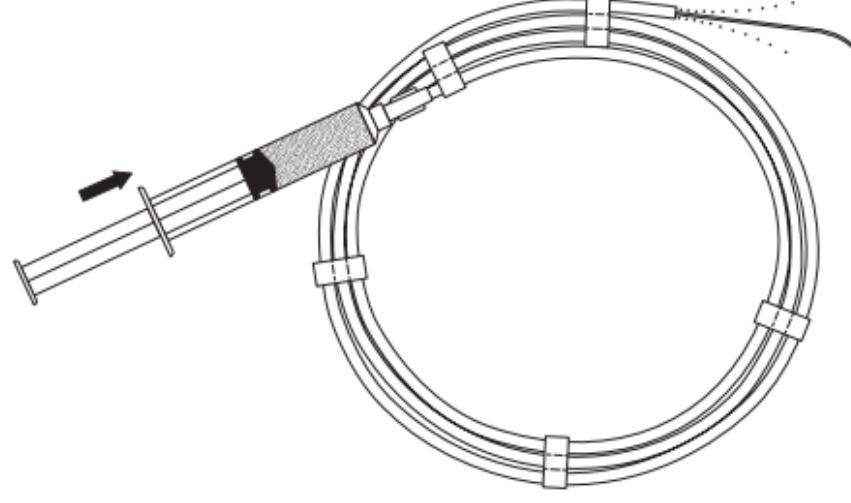

Fig. 1
2. Inject enough solution to wet the wire guide surface entirely. (Fig. 1) This will activate the AQ coating, making the wire guide surface very lubricous.